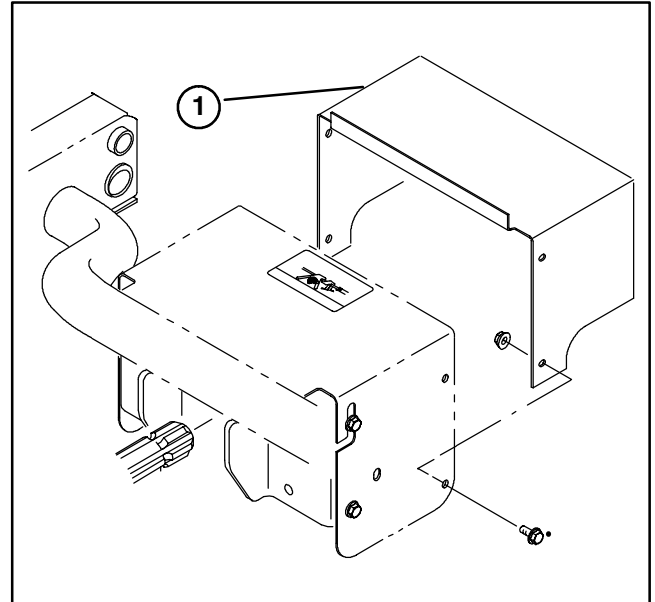

Figure 2
2. Mount shield extension to PTO shield with (4) flange head screws and nuts (Fig. 2).